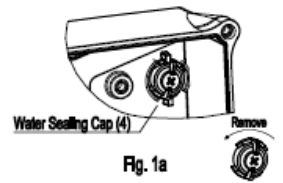

Fig. 1a
2. With cover off, remove the (4) water seal caps by turning counterclockwise, a quarter turn. (See Fig 1a)